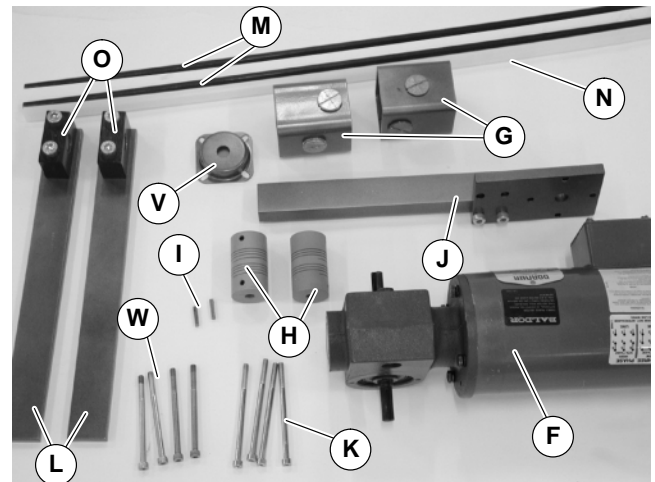
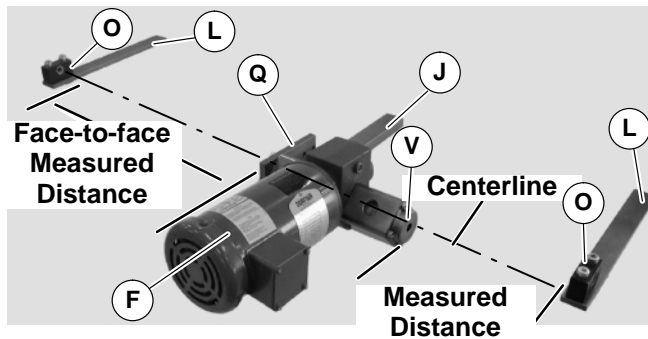

Figure 11
Figure 18
1. Gather components (Figure 11).
**NOTE:** Mounting holes are not provided. Ensure that gearmotor assembly (J of Figure 18) and bearing support assembly (L) are parallel and center-line of coupling matches center-line of bearing block (O).
8. Attach gearmotor assembly (J of Figure 18) and bearing support assemblies (L) to mounting surface.
9. Measure distances between motor mounting plate (Q) and bearing block (O) and from shaft cover (V) to bearing block (O).
10. Cut hex shafts (M of Figure 11) to measured distances (Figure 18) plus 2-1/8" (54 mm) on both sides of gearmotor assembly.